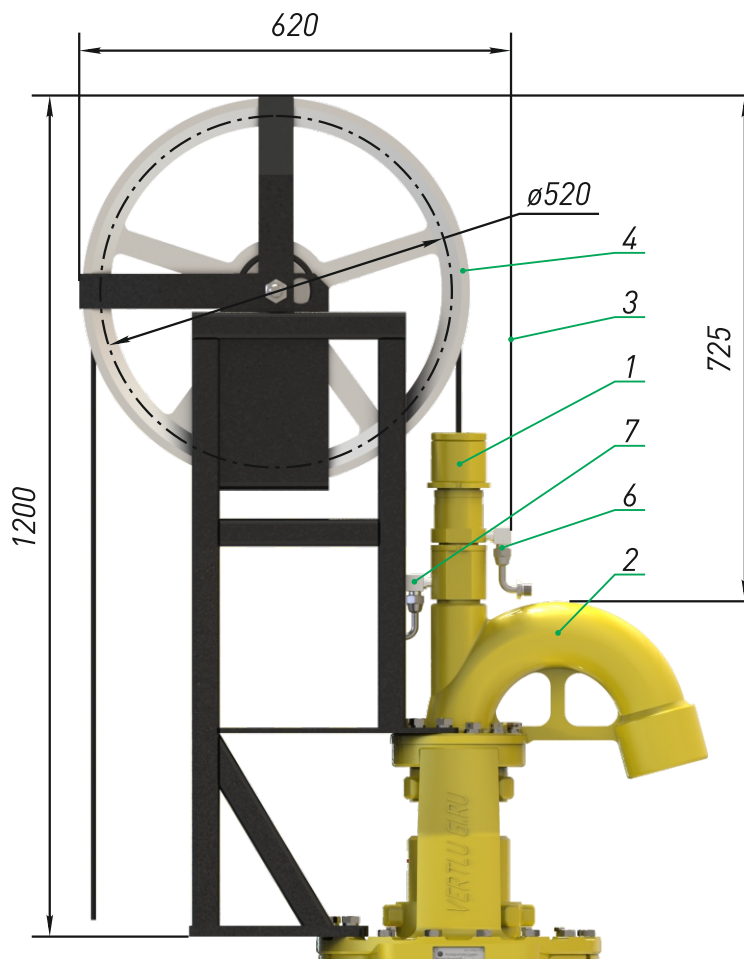

fig. 2
Sealer (fig.2) consist of sealer head (pos.1), fixed to the swivel inlet (pos.2) through which the conducting rope (pos.3) of the used telemetry system, snatch block (pos.4), hydro station (pos.5), pressure hose 6 and drain hose is passed 7.